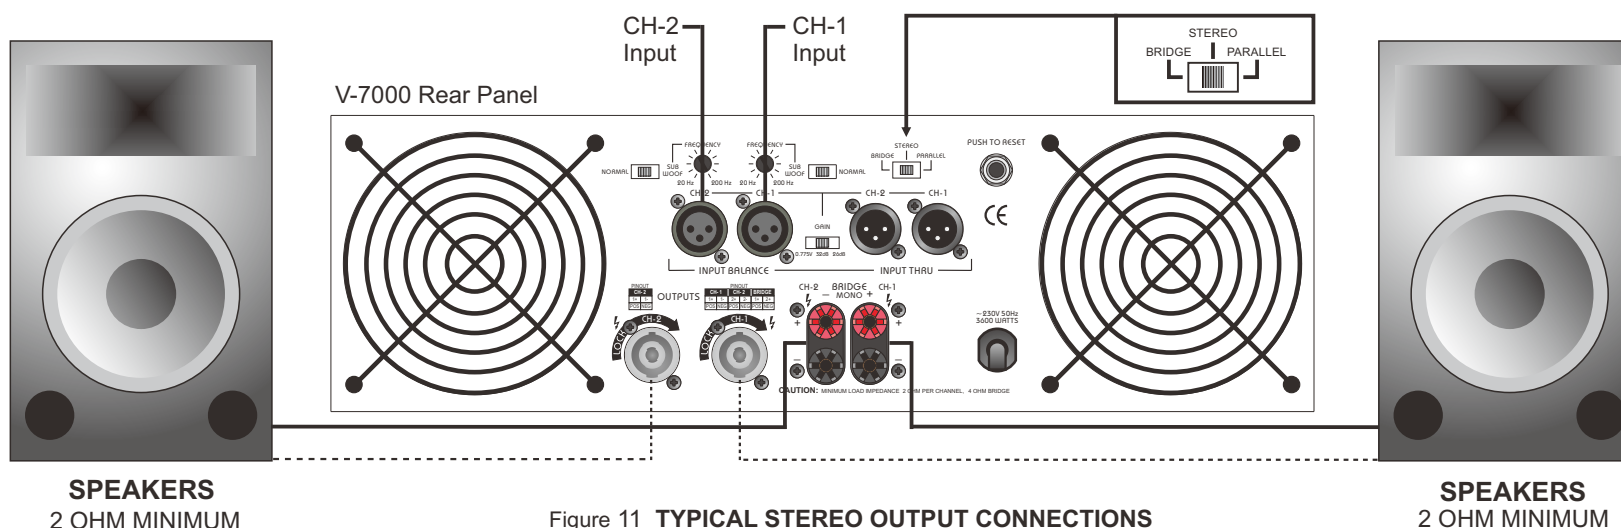

Figure 11 TYPICAL STEREO OUTPUT CONNECTIONS
**STEREO OPERATION** : Page 9/ Figure 11 details an example of a typical stereo set-up. Connect your inputs into channels one and two of the amplifier. Connect your speakers to the outputs on the rear of the amplifier. Be sure that your front gain controls are turned down to their lowest level (fully counter-clockwise). Turn your amp on. Turn your input source level up. Use your front gain controls to regulate the output volume. Be sure not to raise the volume to the clip level, however an intermittent clip signal is acceptable.